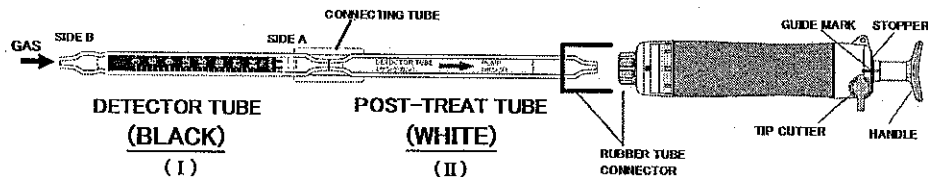

Fig.1
- ① Break both ends of the post-treat tube (II) and an end of the side A of the detector tube (I), and connect each end of the detector tube (I) and post-treat tube (II) with connecting tube as shown in Fig.1. (Arrow mark on the detector tube and post-treat tube shall point to the pump.)
- ② Break an end of the side B of the detector tube (I), and insert the post-treat tube (II) into the aspirating
- ③ pump securely as shown in Fig.1. (Arrow mark shall point to the pump.)
- ③ Align the guide marks on the handle and stopper of the aspirating pump.
- ④ Pull the pump handle at 1/2 pump strokes (to 50mL line) until it locks and wait for 1 minute or until the completion of sampling is confirmed with the flow indicator of the pump. (See descriptions about the flow indicator in the instruction manual of the pump.)